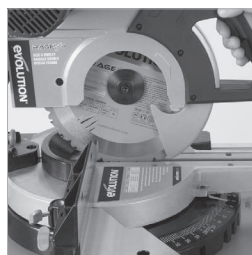

Fig. 28
- Always push the Cutting Head to the full rear position during each cut. (Fig. 28)